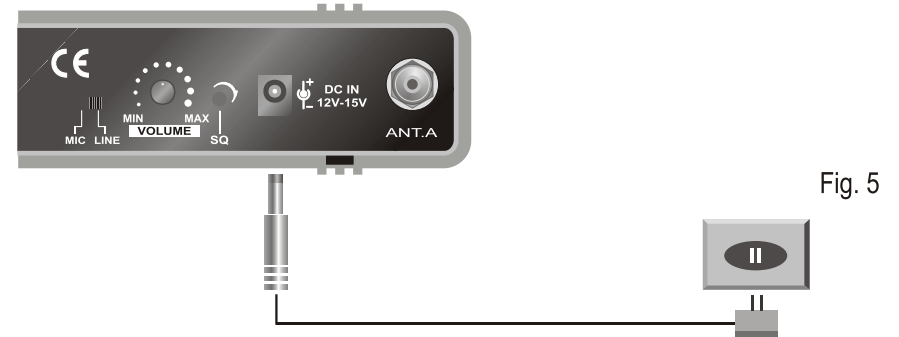

Fig. 5
3.3. Plug in one end of the AC adapter to the DC IN jack of the receiver and the other end of the adapter to the AC outlet as shown in Fig. 5.